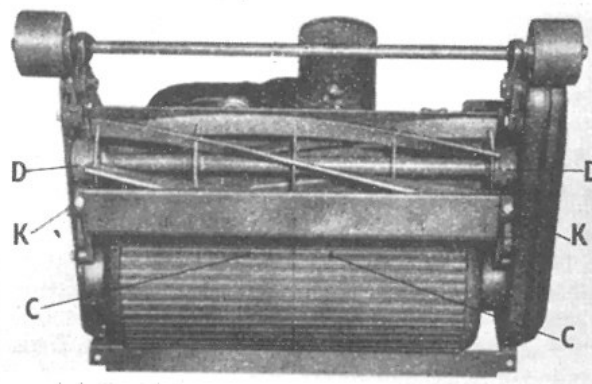

Fig 4.
3. Land rolls, through nipples C which will be found through surface of each roll (Fig. 4, page 7).
4. Cutting cylinder bearings through nipples D. (Fig. 4, page 7).
For setting the knives a simple method is used, viz., adjusting screws (K)—see Fig. 4—on either side of machine.